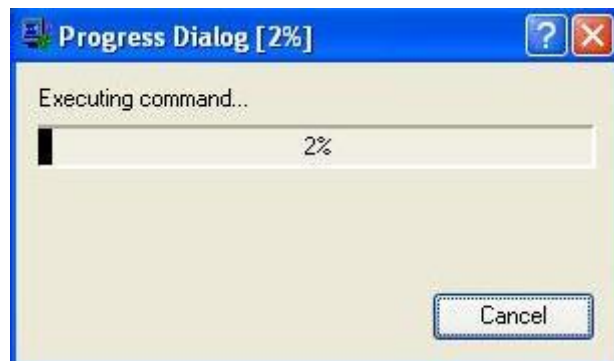

Fig3.25: Configuring Device Data
3. Then Progress dialog box opens which looks like as in Fig 3.25.